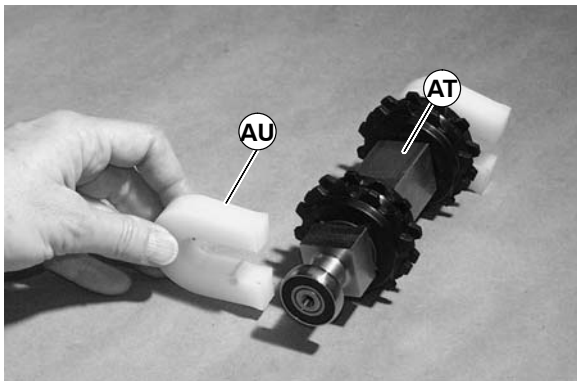

Figure 30
2. Slide idler end guard (AU of Figure 30) from ends of pulley (AT).